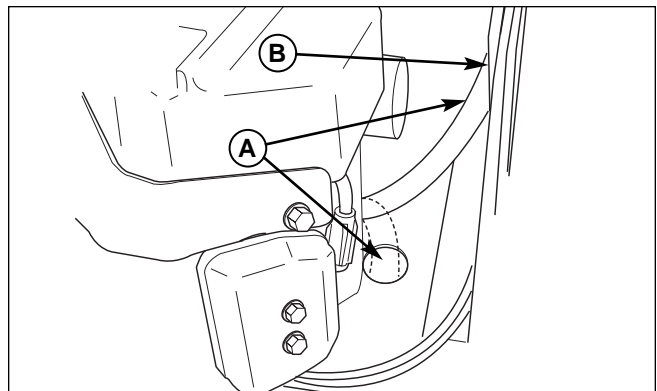

Figure 15. Engine Oil Drain
2. Remove the oil drain hose (A, Figure 15) from the cable clamp (B) on the right-hand side of the frame and route the hose through hole in the engine deck as shown in Figure 15.
3. Place a small pan under the oil drain hose to catch the oil. Using the appropriate tools, remove the cap from the oil drain hose (A) and drain the engine oil.